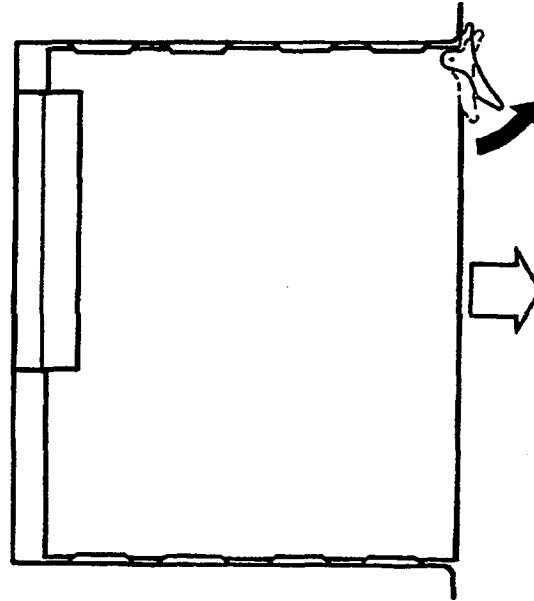

Figure 3-65 Removing a KTU from the KSU
3. The component side of all KTUs must face the left side of the KSU when installed. Ejector tabs are always on the top. Refer to Figure 3-65 - Removing a KTU from the KSU.